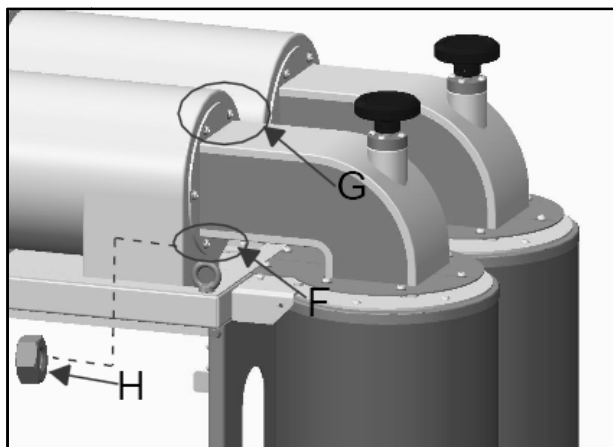

Fig.5
As shown in **Fig.5** , remove 4 screws(F) , these screws was fastened by nut(F) inside the separator system, remove 8 screws(G), then remove the filter assembly.
- 4. Reinstall the new filter back to its original position as shown in Fig.5.**